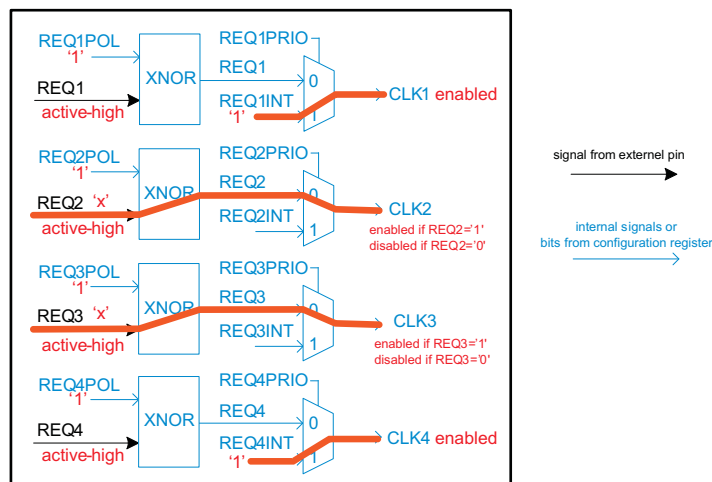

Figure 26. Clock Output Enable Signal
(1) All data is transferred with the MSB first.
(2) A device reset to default condition is initiated by a V_{DD_DIG} power-up sequence.
(4) Inactive as long as the REQxPRIO bit is low, external REQx pins are valid (see Figure 26)
(5) Writing data beyond 03h may affect device function.